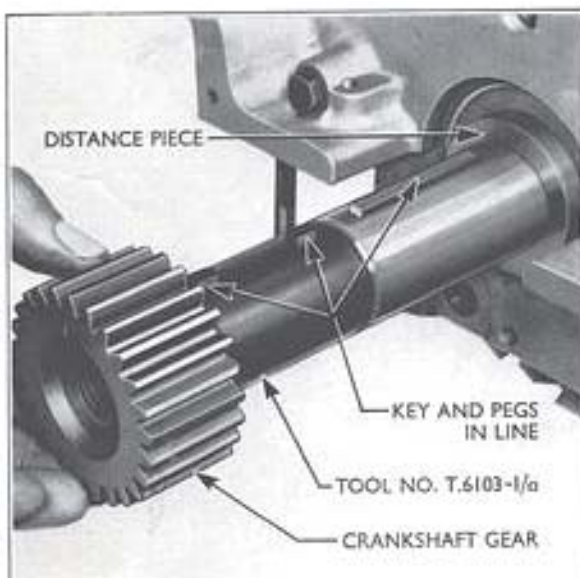

Fig. 15
1. Screw the alignment adaptor (T.6103-1/a) of the crankshaft gear replacer into the front of the crankshaft so that it is in as far as is possible and the pegs on the adaptor are in line with the woodruff key in the front of the crankshaft (see Fig. 15).